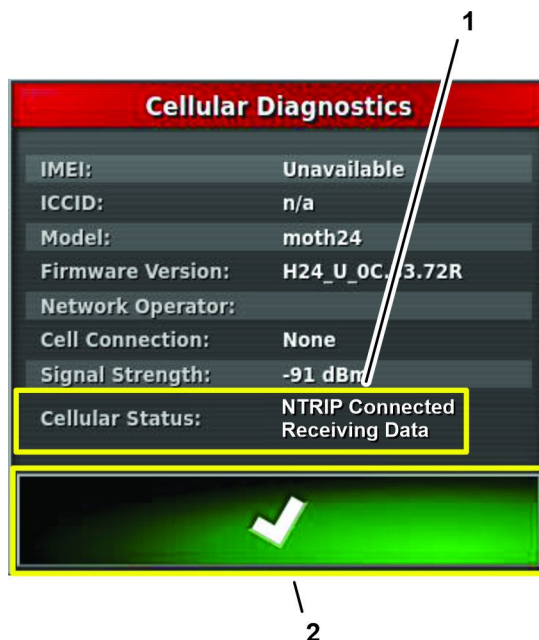

Figure 245
4. Press the CELL DIAGNOSTIC icon, and verify that the cellular status field displays N-TRIP CONNECTED RECEIVING DATA (Figure 245).